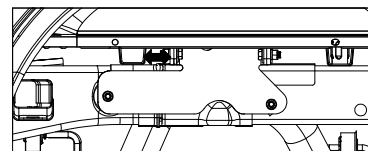

Figure D1: Driver side of truck frame inside the wheel well.
2. **Square the hitch.** With a tape measure, check the distance between the Turnoverball hitch and the nearest bed crossmember. The distance between the hitch and the crossmember should be consistent on the passenger side and the driver side of the hitch, see figure D1. Adjust hitch until the hitch and the bed crossmember are the same from side to side.